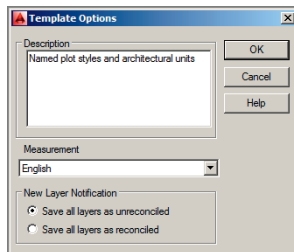

FIGURE 14.8 Describing the template
6. Type **Named plot styles and architectural units** in the Template Options dialog box that appears (see Figure 14.8). Click OK.